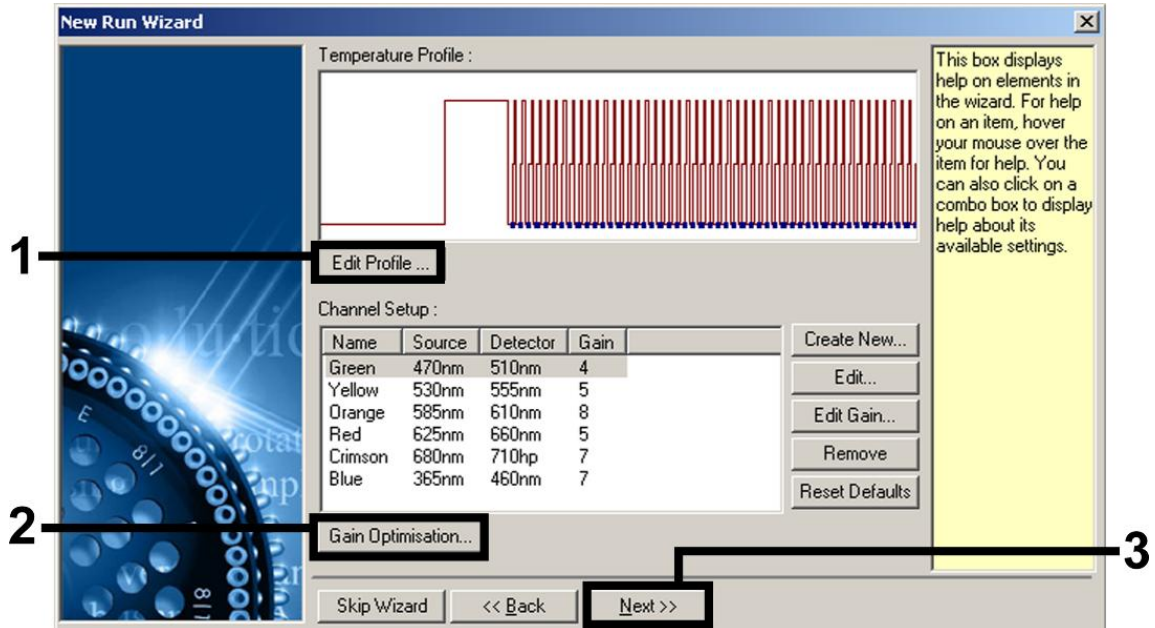
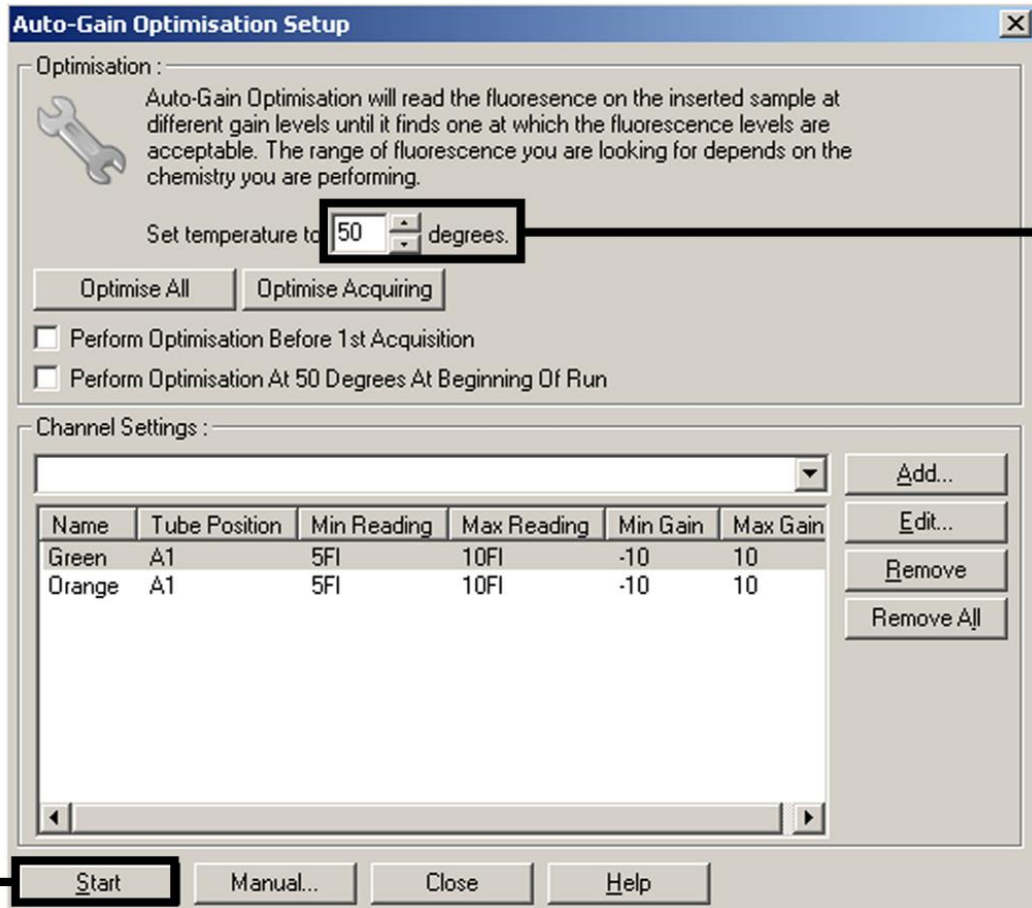

Figure 7. Editing the profile.
Figure 11. Adjusting the fluorescence channel sensitivity.
Adjusting the fluorescence channel sensitivity	Figure 11
- Click the "Edit Profile" button in the next "New Run Wizard" dialog box (Figure 7), and program the temperature profile as shown in Figures 7–10).
9. The detection range of the fluorescence channels has to be determined according to the fluorescence intensities in the PCR tubes. Click "Gain Optimisation" in the "New Run Wizard" dialog box (see Figure 7) to open the "Auto-Gain Optimisation Setup" dialog box. Set the calibration temperature to 50 to match the annealing temperature of the amplification program (Figure 11).